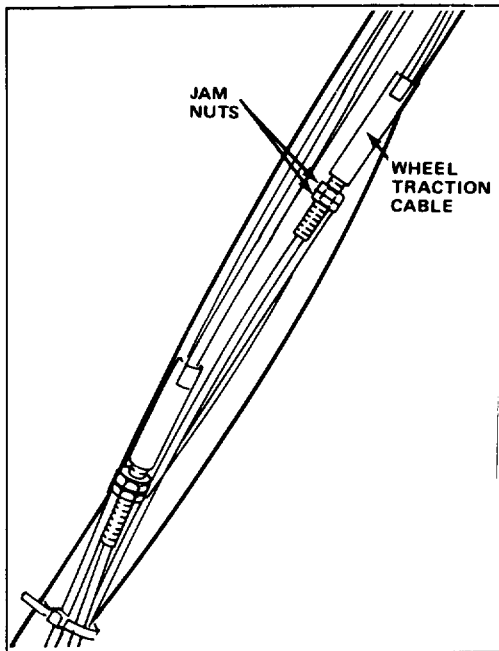

Figure 14
2. Loosen bottom jam nut on wheel traction cable (Fig. 14).